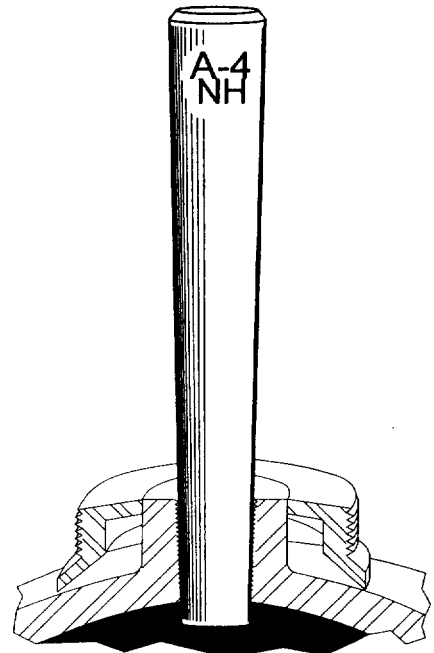

Fig 2.6.1
**ACTION:** Drive large DRIFT PIN A-4NH (Fig 2.6.1) into valve opening and apply DEVICE 1NH (Hood Assembly) (See page 5 for instructions)